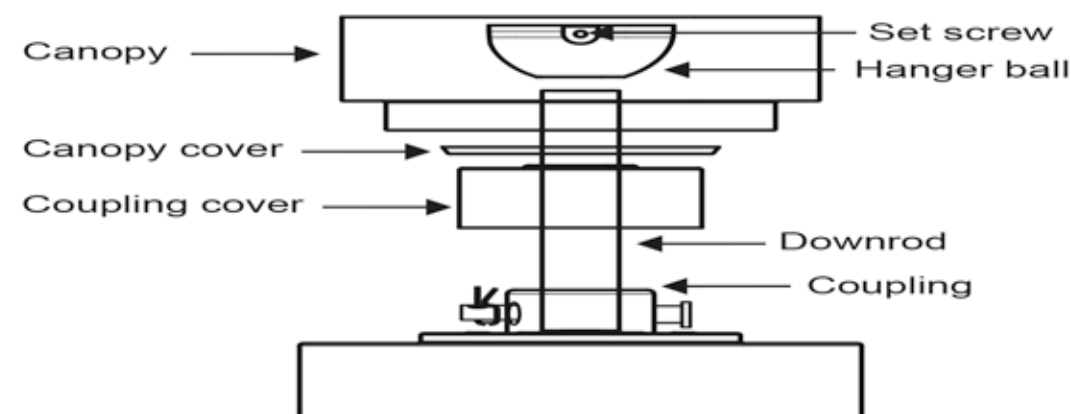

Fig.6
Step 7. Slip the coupling cover, canopy cover and canopy onto the downrod. (Fig.6)
**Step 2.** Slide the canopy up to the mounting bracket and place the key hole slots over the mounting screw on the mounting bracket. Rotate the canopy until the screw head locks in place at the narrow section of the key hole. See figure 6.